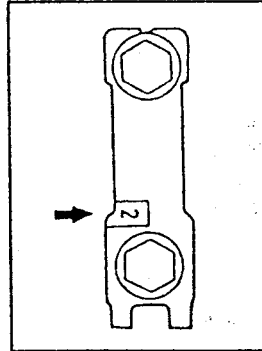

Fig. 15.24. — Bearing cap No.
- Install the bearing caps in according with their number identification. No. 5 cap has no identification number. The other three have their number stamped into the position shown in Fig. 15.24.